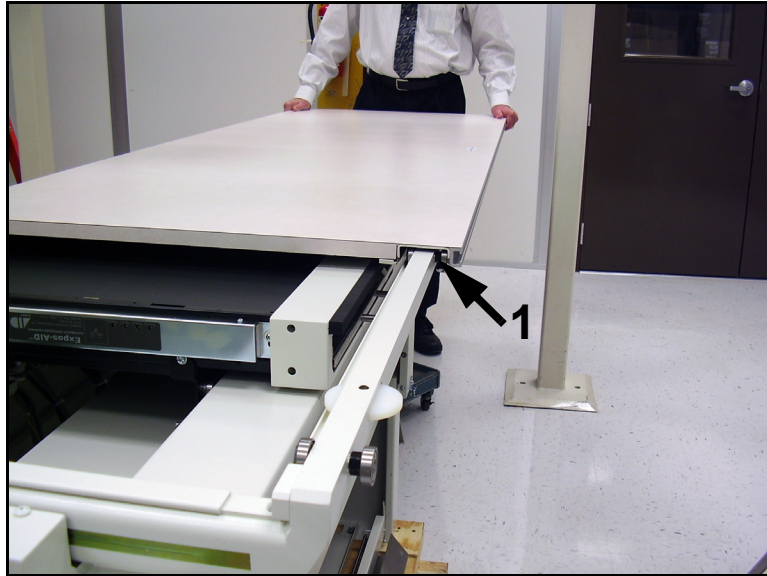

Figure 2-38. Middle Bearing
- 63 Install the middle bearing (1 in Figure 2-38) and adjust it as you did for the others.